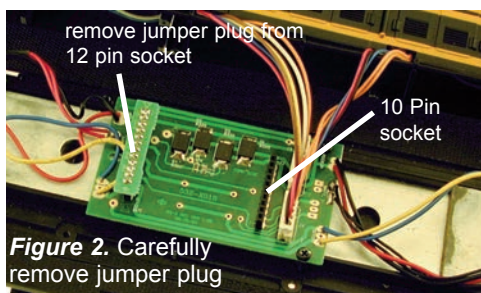

Figure 2. Carefully remove jumper plug
2. Remove the jumper plug from the locomotive's 12 pin DCC-ready socket. (**Figure 2**) The jumper plug allows the locomotive to operate on a standard DC track or in analog mode on a DCC track.